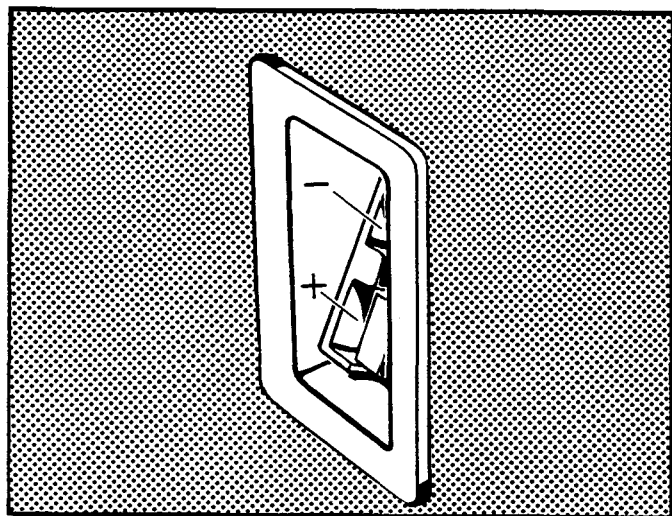

FIG. K-3 VEHICLE RECEPTACLE
To test the control circuit, turn the key switch (1) to the "ON" position. Set the volt meter to the 50 VDC range. Touch the black probe to the negative (-) contact of the vehicle D.C. receptacle and the red (+) probe to the positive (+) contact of the vehicle D.C. receptacle. (Fig. K-3)
Set the volt meter to the 50 VDC range, check that the key switch in "ON" and the forward-neutral-reverse switch is in the "REVERSE" (R) position. Locate the black probe (-) in the negative side of the vehicle receptacle (Fig. K-3) and place the red (+) probe to the terminal on MS-4 with the black wire. A meter reading of  $36 \text{ VDC} \pm 5\text{V}$  indicates that the black wire between the positive (+) terminal of the front right battery and the micro switch MS-4 is in good condition.
Set the volt meter to the 50 VDC range. Touch the black (-) probe to the negative (-) contact of the vehicle D.C. receptacle and the red (+) probe to the positive (+) contact of the vehicle D.C. receptacle (Fig. K-3, K-5).